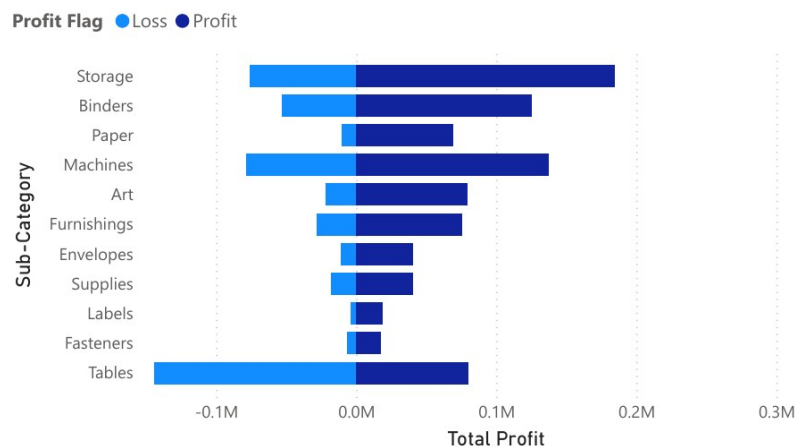

Figure 4: Profit by Sub-Category with conditional colour (diverging bar).
- **Fix or drop Tables.** Figure 4 shows Tables lose money outright; re-price, renegotiate supply cost, or delist.